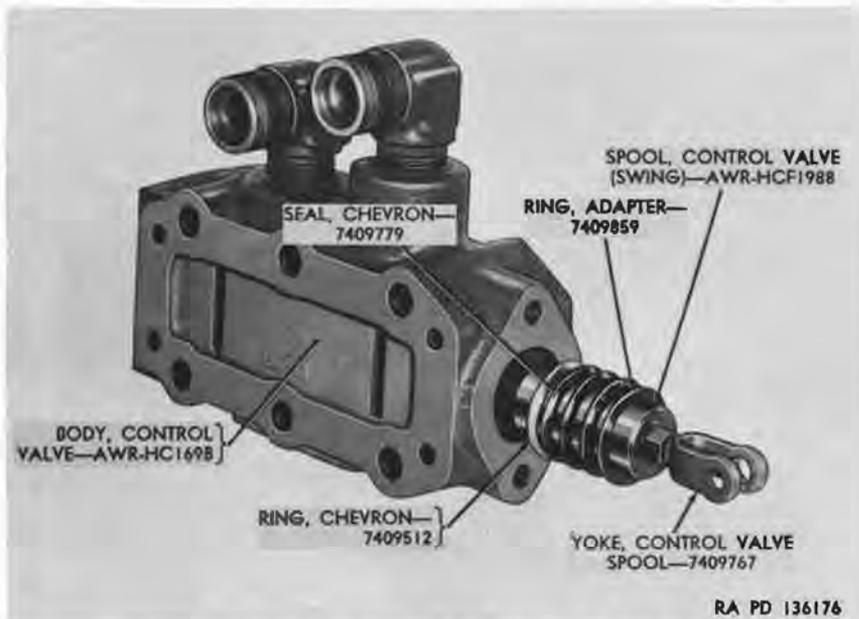

Figure 24. Control valve spool and chevron seals removed.
- (d) Slide control valve spool together with adapter ring (Z), chevron ring (AA), and three chevron seals (E), out through front end of control valve body (fig. 24).
- (e) Remove control valve spool yoke (fig. 24) and locking nut (Y) from end of (swing) control valve spool (D).
*b. Assemble Hydraulic Control Valve.* Turn control valve spool yoke (J) and  $\frac{7}{16}$ -20NF-2 locking nut (Y) into end of control valve (swing) spool (D). Tighten securely. Insert control valve spool into control valve body (BB) and push through until just enough space is left on spool to arrange three chevron seals (E), adapter ring (Z), and chevron ring (AA), as shown in figure 24. Completely push spool into place in body, install control valve spool front cover (F), and secure with  $\frac{7}{16}$ -14NC-3 x  $\frac{5}{8}$  hex-head cap screw (H), special eye bolt (R), and one  $\frac{7}{16}$ -14NC-2 locking nut (W). Assemble control valve lever (P) to control valve spool yoke and eye bolt and secure in place with three  $\frac{7}{16}$  x  $1\frac{5}{64}$  rod end pins (K, L, and M), two control valve links (N and S) and three new  $\frac{3}{32}$  x  $\frac{3}{4}$  cotter pins (T, V, and X). Place control valve spring washer (XX), sleeve (RR), and spring (WW) on end of control valve spool which extends out the rear end of control valve body. Compress spring sufficiently to secure spool, and associated parts, with horse shoe type washer (SS). Install control valve end cover (TT) and gasket (VV), and secure with four  $\frac{5}{16}$ -18NC-3 x  $\frac{7}{8}$  cap screws (UU). Tighten to torque specifications (par. 146a). Each of the four control valves are assembled in like manner. Control valve bodies and spools, are not interchangeable and must be kept in the same position in the valve bank for the function they are to control. Be sure to note the function of whichever control valve must be replaced and order these parts accordingly.